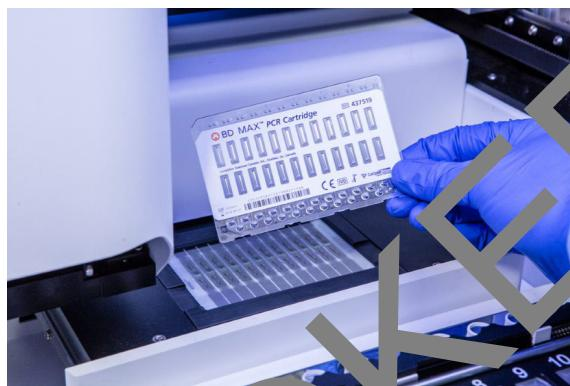

Figure 2: Load BD PCR Cartridges
14. Place the required number of BD MAX PCR Cartridge(s) into the BD MAX System (refer to Figure 2).